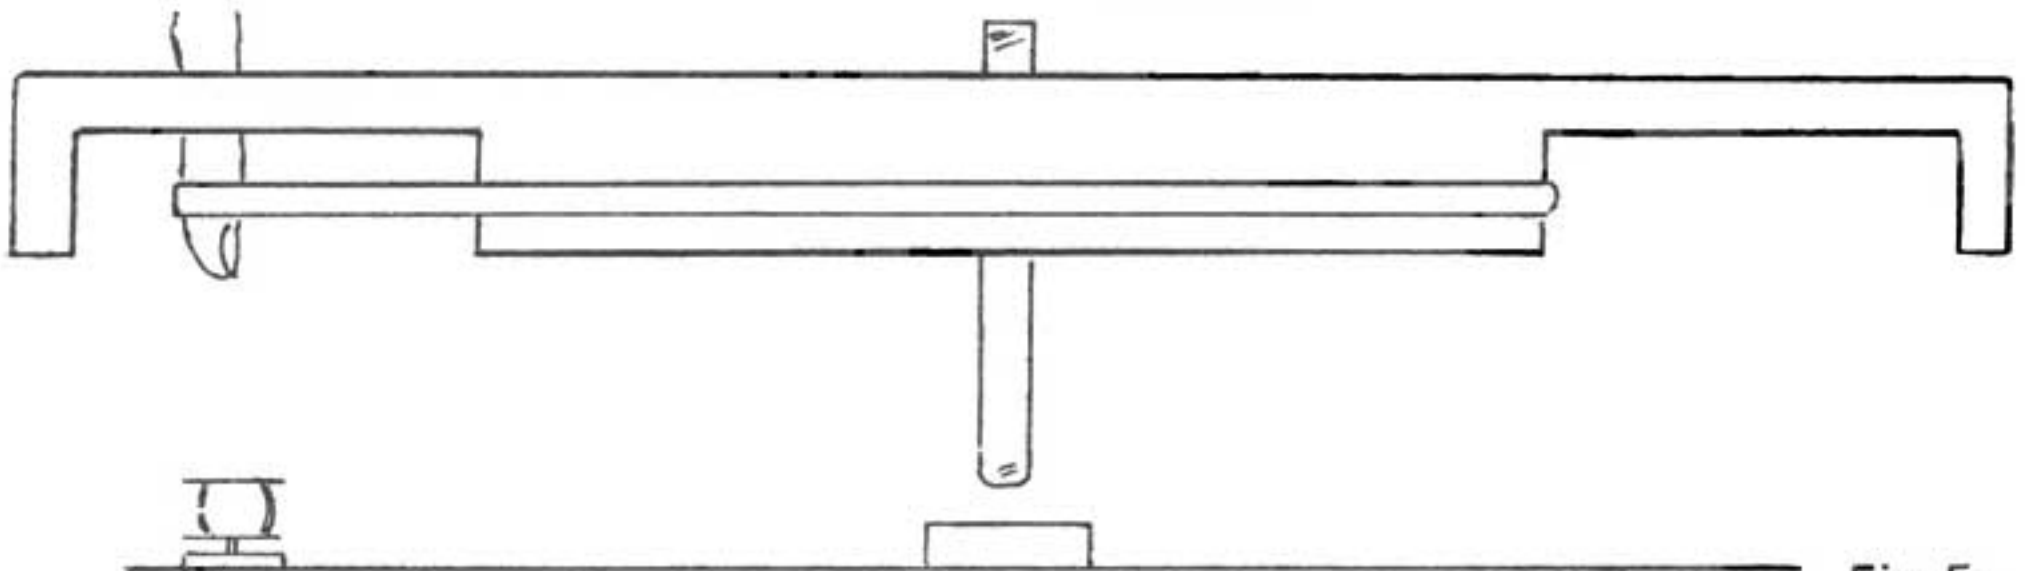

Fig. 5a.
- 7.2. With your index finger through one of the access holes in the platter hold the drive belt in position ready to pass around the pulley. (See fig. 5a and 5b).